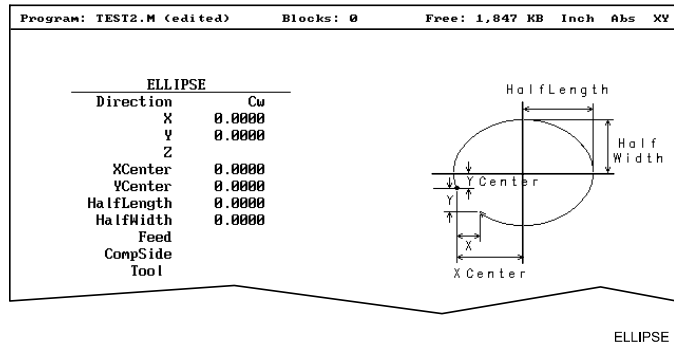

Figure 4-30, ELLIPSE Graphic Menu
3. Highlight **Ellipse** and press **ENTER** to display the **ELLIPSE** Graphic Menu. Refer to **Figure 4-30**.